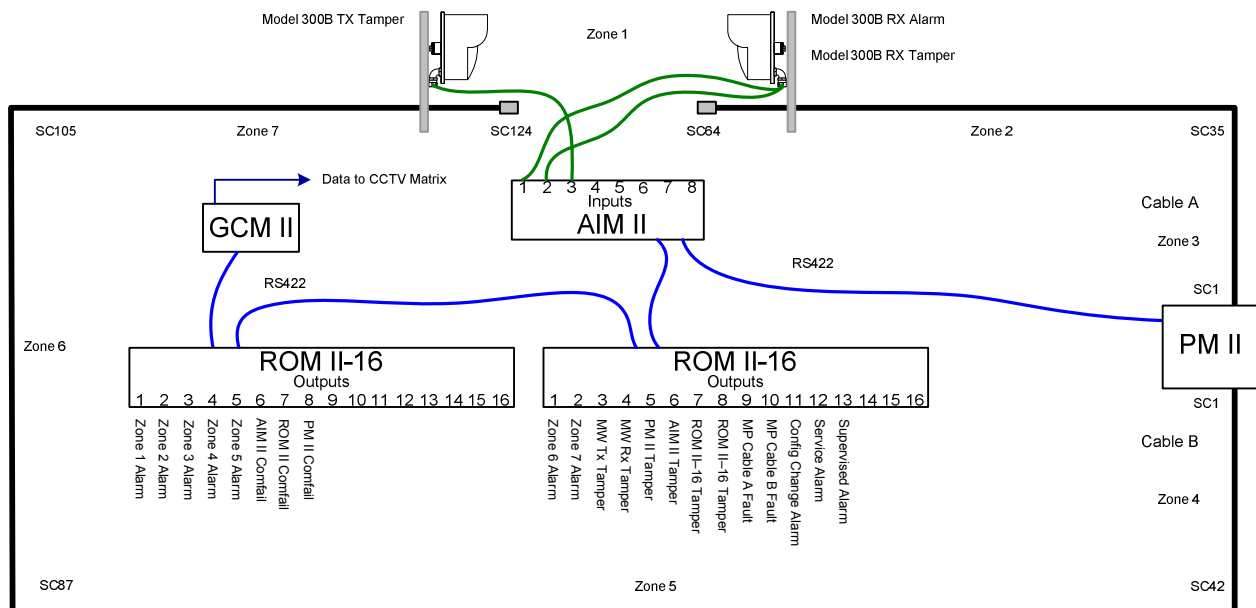

Figure 7 – Example System
- **GCM II** – This is the Graphic Control Module II. Thirty two (32) INTREPID™ Series II devices can be connected to the communications ports (eight {8} on each port). It is the Poll Master in the system. It has a fixed address of 254. It can also be configured as a Fault Tolerant loop.
- **Zone Record** – The zone record consists of up to eight (8) inputs that can be assigned to up to eight (8) relay outputs. This information is what is programmed into the GCM II to control the alarm relay output functions. Inputs that can be assigned are: intrusion alarms from sensors such as microwaves, infrareds, etc., intrusion alarms from subcell groupings from MicroPoint II or MicroTrack II cables, enclosure tamper switches, cable faults, communication failures, supervised alarms, configuration change alarms, and service alarms.
Figure 7 shows a simple example system using the GCM II and relays for alarm annunciation. This configuration uses a PM II with two sensor cables, an AIM II, Model 300B microwave link, two (2) ROM II-16's and the GCM II.